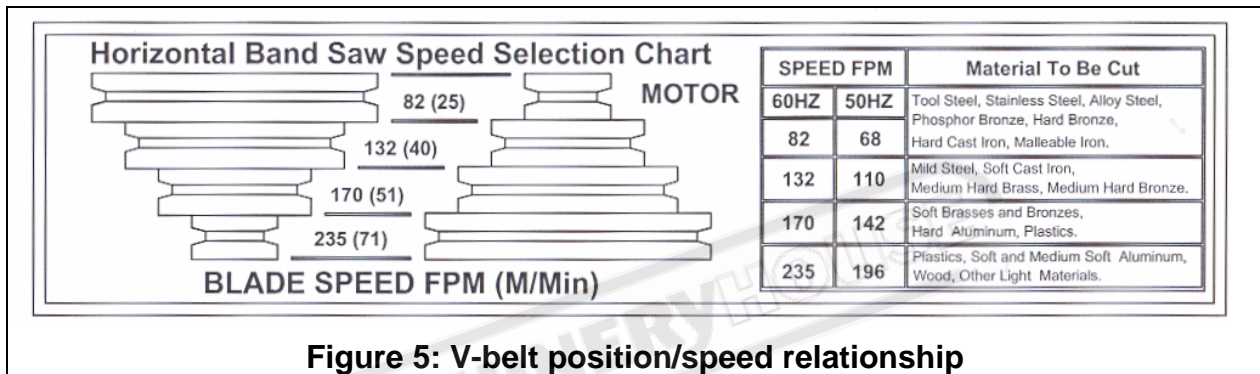

Figure 5: V-belt position/speed relationship
5. Select the speed using the placard on the cover. Put the V-belt in the pulley grooves of the pulley for the desired speed (refer to **Figure 5** for belt locations and the speeds available).